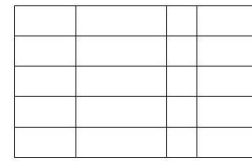

Fig 21
4. Enter to finish the command. (Fig21)